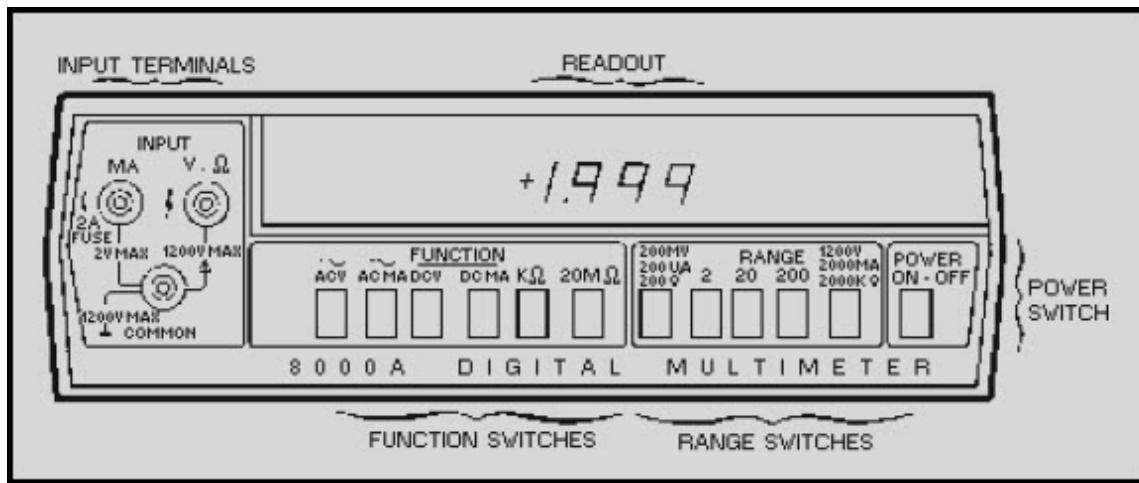

Figure 4-8 Digital voltmeter 8000A operating features
One example of a typical electronic multimeter in use within the Navy is the electronic Model 8000A Digital Multimeter. Most electronic digital multimeters overcome the disadvantage of requiring a continuous external power source by combining an external ac source with an internal rechargeable battery. Another advantage of this meter is that it can be read directly and does not use a scale. Figure 4-8 shows the model 8000A multimeter.
The locations of all controls, connectors, and indicators are shown in figure 4-8. The INPUT terminals, located on the left-hand side of the meter face, provide input connections for voltage or resistance (V-?) and milliamperes current (MA) measurements with respect to the common terminal. The readout section, located across the upper half of the meter face, contains light-emitting diode (LED) indicators. They display the measured input and polarity signs for dc measurements. The POWER switch, located on the lower right-hand side of the meter face, is a push-button switch used to energize the instrument. The RANGE switches, located on the lower, middle, right-hand portion of the meter face, select the voltage (200 millivolts, 2, 20, 200, or 1,200 volts), current (200 microamperes, 2, 200, or 2,000 milliamperes), and resistance (200 ohms, 2, 20, 200, or 2,000 kilohms) ranges. The FUNCTION switches, located on the lower, middle, left-hand portion of the meter face, select the voltage, current, or resistance modes. The MA input terminal is also a fuse holder for the current protection fuse.